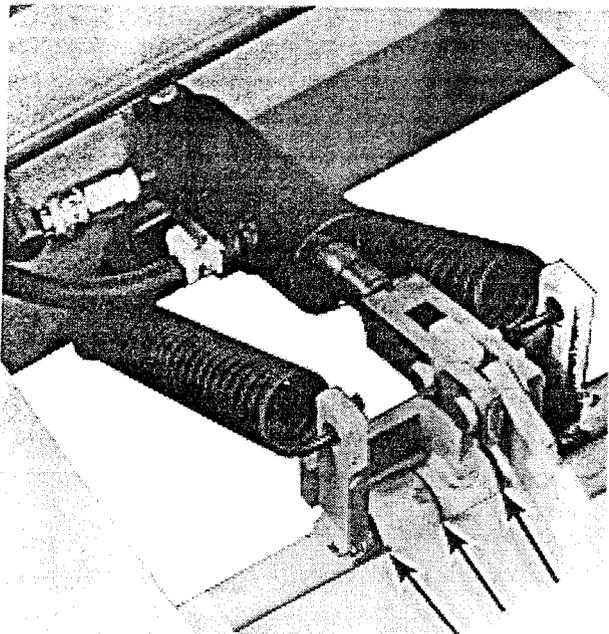

FIG. 1-1 Brake Linkage
- b. The only areas that need lubrication (EP 90 or equivalent) are the steering cylinders on both pivot pins and the brake linkage (Figures 1-1 and 1-2).